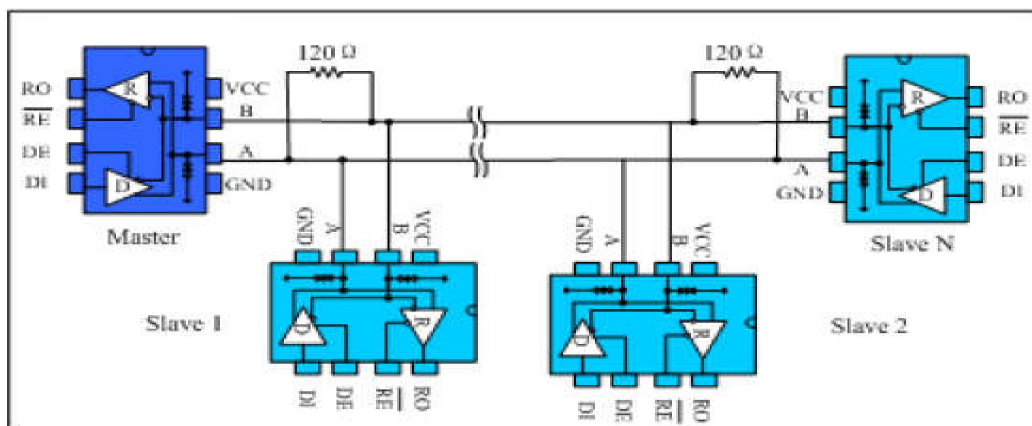

Fig. 9 Bus-type RS485 half-duplex communication network
4.1 Bus networking: The MAX481ESA-TD RS485 transceiver is designed for bidirectional data communication on multi-point bus transmission lines. Figure 9 shows a typical network application circuit. These devices can also be used